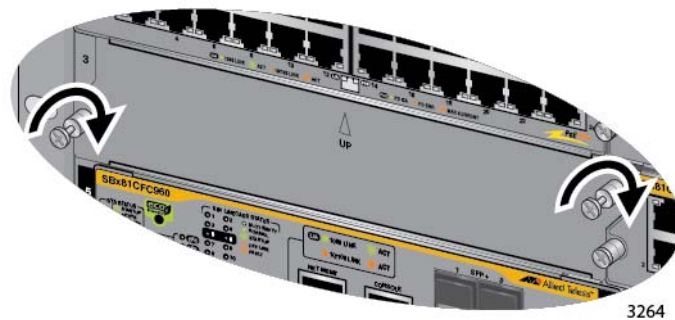

Figure 92. Tightening the Thumbscrews on a Blank Slot Cover
2. Finger tighten the two thumbscrews to attach the blank panel to the chassis, as shown in Figure 92.